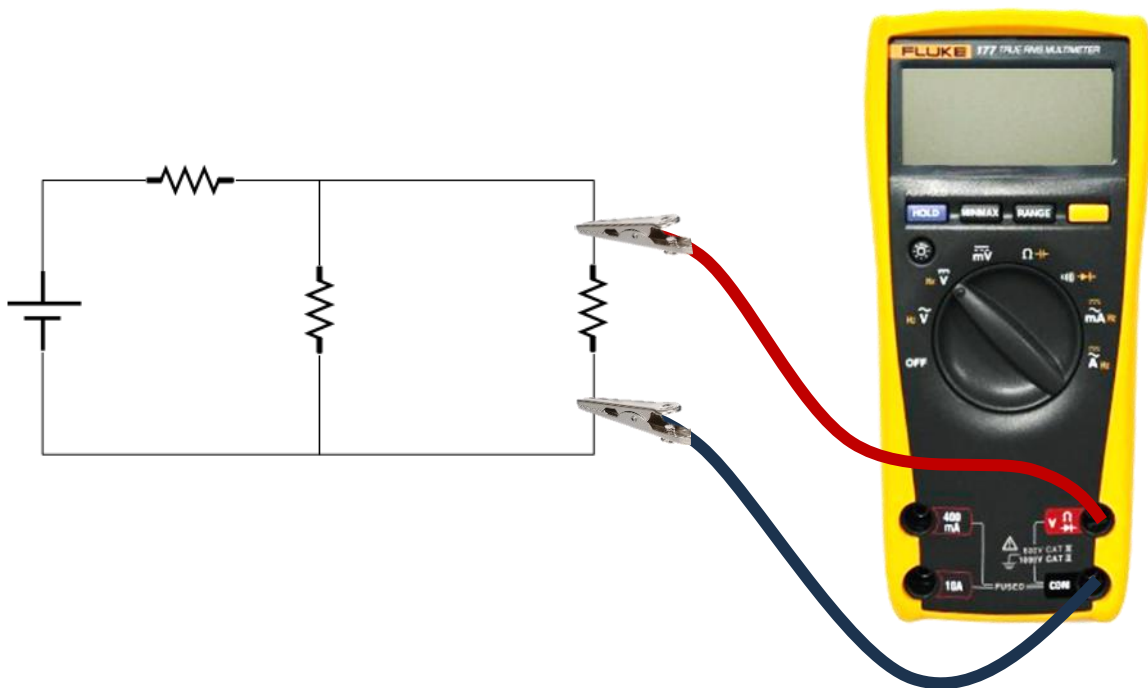

Fig. 5
- Connect** the probes of the multimeter **parallel to the resistor (Fig. 5)**.